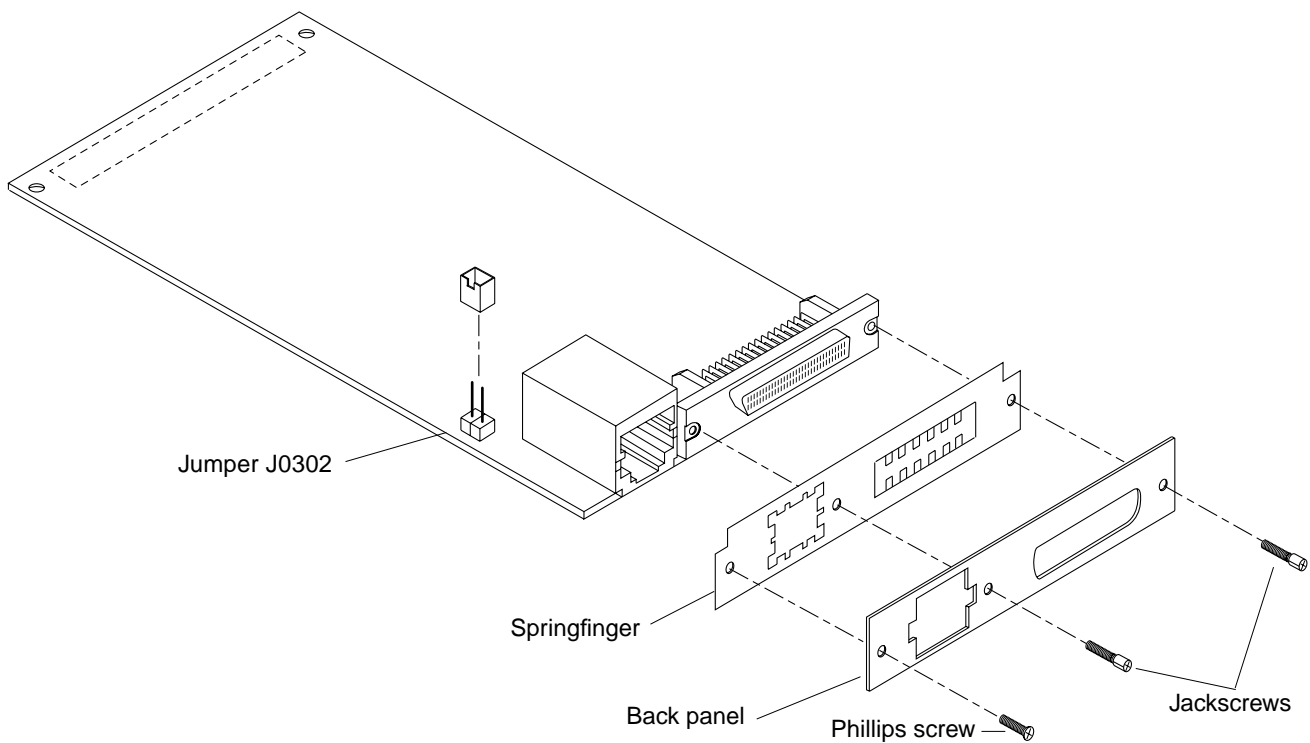

Figure 4-15 DSBE/S SBus Card
2. For DSBE/S and FSBE/S cards: remove the two outer retaining screws (see Figure 4-15), but do NOT remove the middle screw or the springfinger. Use a Phillips #0 screwdriver and a 3/16 nut driver or socket wrench.
See Figure 4-15 (DSBE/S) or Figure 4-16 (FSBE/S).